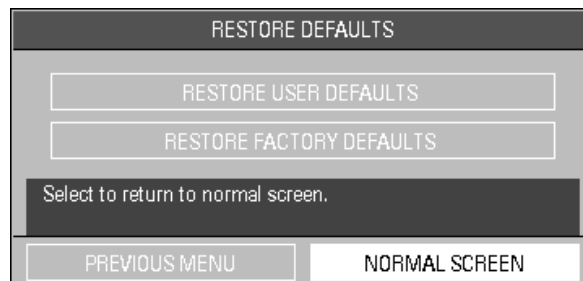

FIGURE 2-12 Restore Defaults Menu
1. Select **RESTORE DEFAULTS** from the **MONITOR SETUP** menu. The **RESTORE DEFAULTS** menu (FIGURE 2-12) is displayed.